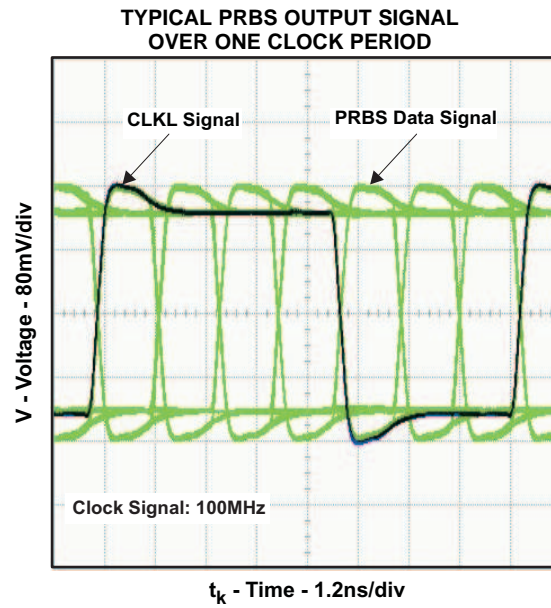

Figure 13.
- Changed Figure 13 - TYPICAL PRBS OUTPUT SIGNAL OVER ONE CLOCK PERIOD ..... **13**